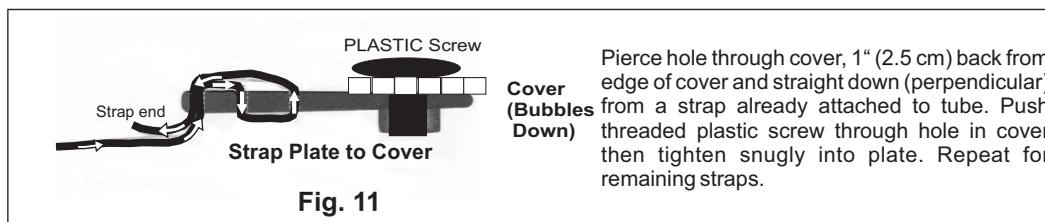

Fig. 11
- C. Choose either Fig. 11 OR Fig. 12 - the appropriate instructions below for your pool shape. If you have determined a mid-pool or off-center placement, it may be easier if you move the cover away from the pool and fold it (Bubbles In) on a flat surface.
For Systems Placed at Pool End (RECTANGULAR Pools) (Fig.11)